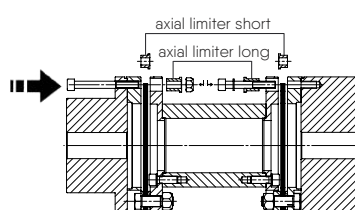

Figure 6
- 4.1.1. Install hubs (8) and (9) on their respective shafts in their proper position (see fig. 6). Hub faces must be flush with shaft end. In case of doubt, please consult us. Introduce setscrew on key with Loctite and tighten properly. In case of interference fit, refer to ESCO for proper instructions.